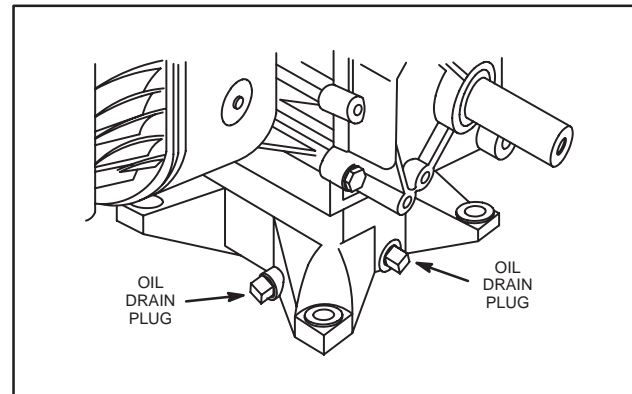
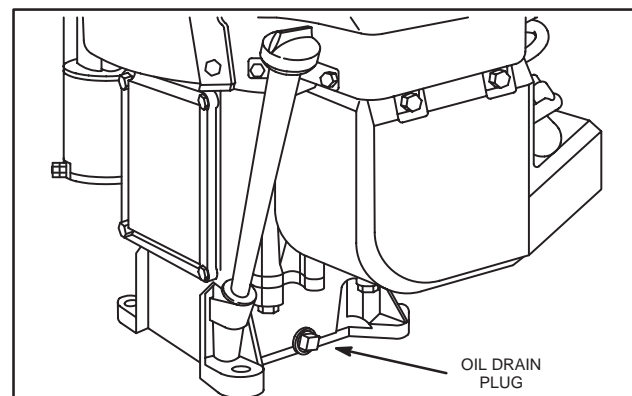

Fig. 1 – Horizontal Crankshaft Engine
Fig. 2 – Vertical Crankshaft Engine
Remove oil drain plug and drain oil while engine is still warm, Fig. 1 and Fig. 2. Replace drain plug.
Thereafter, change oil every fifty (50) hours of operation. Change oil more often if engine is operated in dirty or dusty conditions or if engine is operated under heavy loads or in high ambient air temperatures. Remove oil drain plug and drain oil while engine is still warm, Fig. 1 and Fig. 2. Replace drain plug.